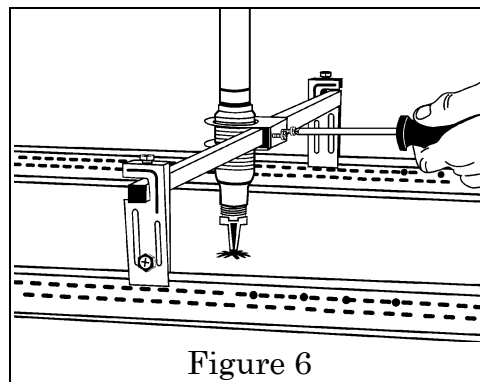

Figure 6
Step 5: Attach the ceiling grid clamps to the rails of the suspended ceiling, then attach the support bar to the ceiling grid clamps. *Figure 5.* Then attach the reducer to the support bar using the reducer clamp. *Figure 6.* Tightening torque for screws in ceiling grid clamps and reducer clamp: 4.1 ft-lbs (5.5 Nm).